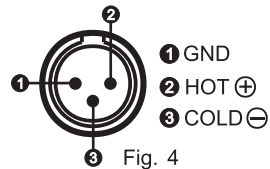

Fig. 4
- (A) When connecting the audio output to the MIC IN jack of the mixer or amplifier, switch output level switch ⓫ to 0 dB. When connecting to LINE IN jack, set output level switch to +16 dB when using balanced XLR connector or set output level switch to +10 dB when using unbalanced (6.3 Ø) connector. When connecting to an amplifier with non-standard gain, set output level switch to -6 dB when there is distortion at the maximum output level.
- (B) Output for electric guitar/bass: Use a 6.3 Ø phone cable. One end to receiver's unbalanced output jack and the other end to guitar/bass amplifier's input jack. Switch the output level to the "+10 dB" position.
- (C) Use an XLR cable to connect the receiver audio output jacks ①⑤⑦ to a mixer or an amplifier's MIC IN jack.
- (D) Use a PHONE cable to connect the unbalanced phone jacks ⑫⑬⑭ to a mixer or an amplifier's LINE IN jack.
- (E) To mix the multiple channel outputs, connect to the mixed output jacks ⑪ or ⑫ and switch the output switch ⑭ to the MIX position.
- (F) See Fig. 4 for a 3-pin XLR connector wiring diagram.